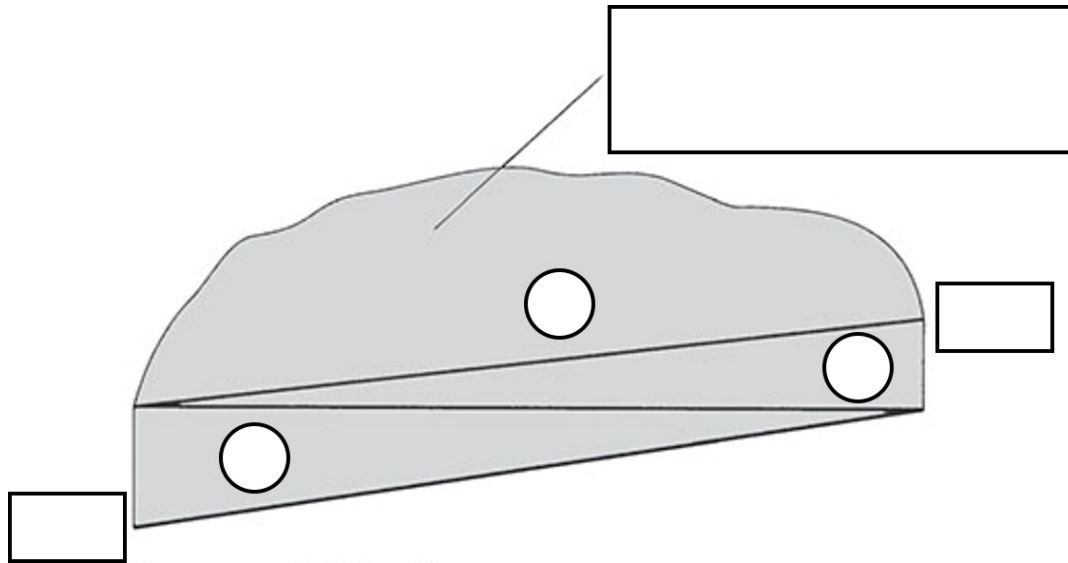

Figure 3. Illustration of the bending moment diagram along the continuous beam section.
- a. This will create a _____ simple bending moment diagram as illustrated in Figure 3.